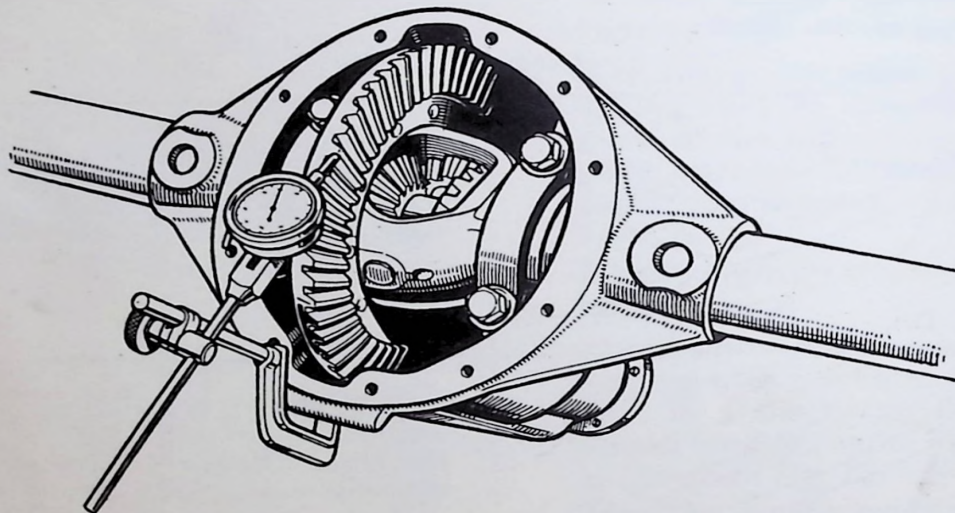

Fig. 27.
- (11) Re-mount the dial indicator on the gear carrier housing with the button against one of the drive gear teeth, as nearly in line with the direction of tooth travel as possible, see *Fig. 27*. Move the drive gear by hand to check the backlash which should be as etched on the gear (minimum .004") (.102 mm.). If the backlash is not in accordance with the specification, transfer the necessary shims from one side of the differential case to the other to obtain the desired setting. To